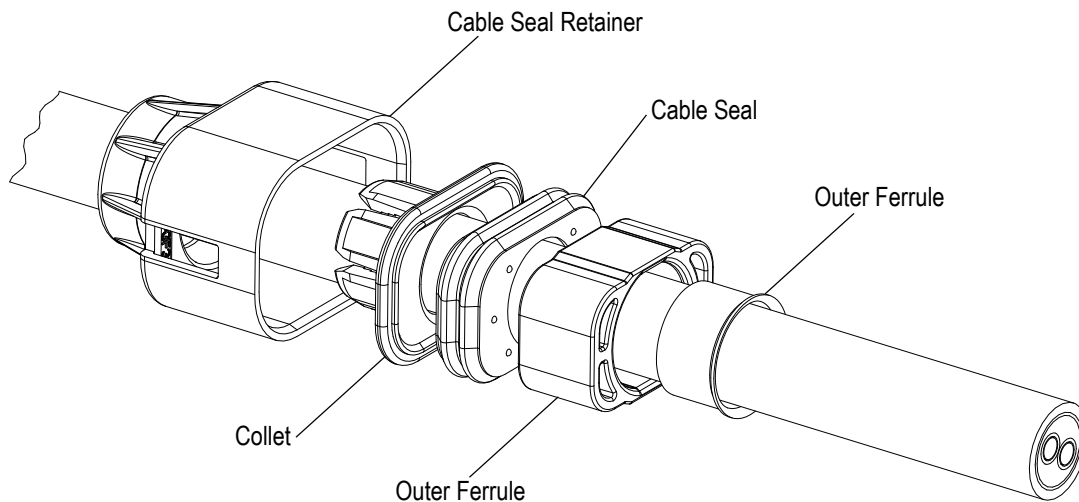

Figure 3
1. In the orientation shown in Figure 3, slide the cable seal retainer onto the cable first, then the collet, cable seal, spacer, and then finally the outer ferrule.